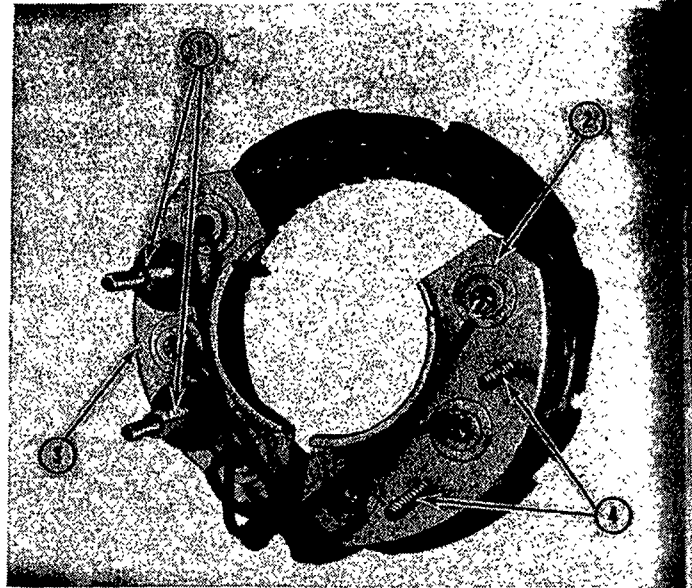

Figure 61
1. Place the insulating sleeves and washers over the rectifying diode studs, as shown in Figure 61, for 12 volt negative ground alternators.